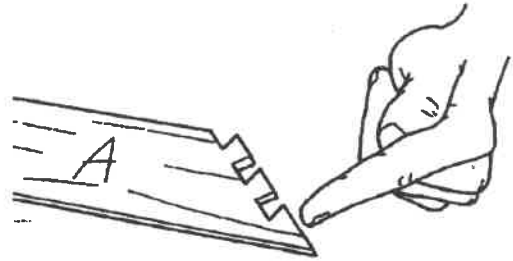
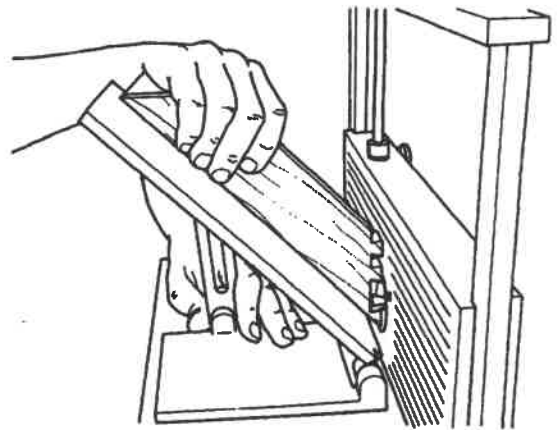

Fig. D-9
Fig. D-10
9. Turn off the router and Dust Collector. If there is no room for another dovetail in the remaining wood, as demonstrated in Fig. D-9, then workpiece "B" is finished—so set it aside.
10. For workpiece "A", clean off the remaining wood (pointed to in Fig. D-9) by lowering the slide in increments less than the diameter of the bit. See Fig. D-10. When there is about 1/8" wood left to remove at the "toe", lower the slide in 1/2 turn increments until a very thin sliver remains at the tip of the workpiece. When you reach this point, gently snap it off to get a nice, sharp edge.